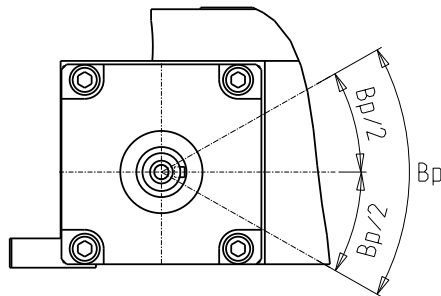

Fig. 23 Cam dwell period.
- The input shaft notches are in the position shown in Fig. 23 when the table is halfway through its dwell period.